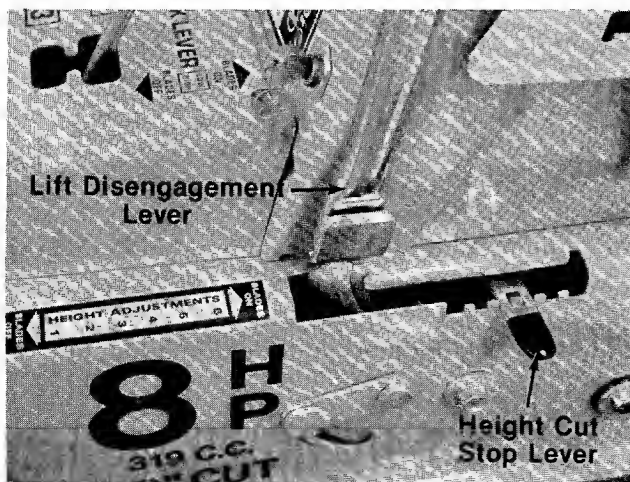
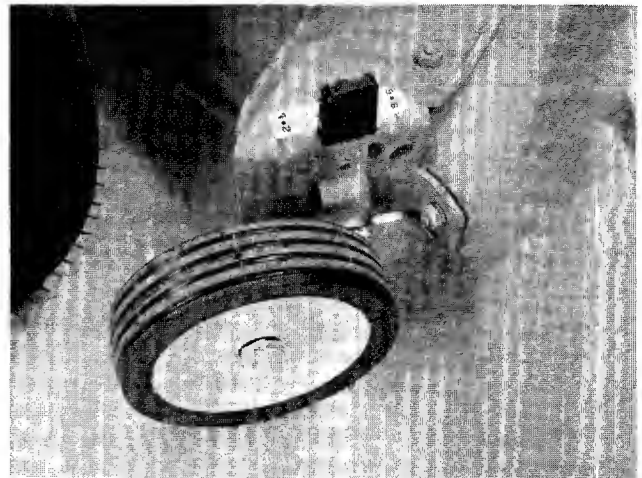

FIGURE 15.
FIGURE 16.
The engine will not start unless the lift and disengagement lever is in the disengaged position. See figure 15.
Height of Cut Stop. See figure 15. Lift the stop and set it at the desired cutting height. Allow the lift and disengagement lever to come forward to rest against the height of cut stop.
Wheel Height Adjuster. Move the lever towards the wheel and set it in the desired cutting height position. See figure 16. Both wheels must be in the same relative position.
Set the wheel height adjusters in the desired cutting height as indicated in figure 16. Set height of cut stop in the lowest position. See figure 15.
5. Move the lift and disengagement lever backward to the disengaged position and lock it. See figure 15.